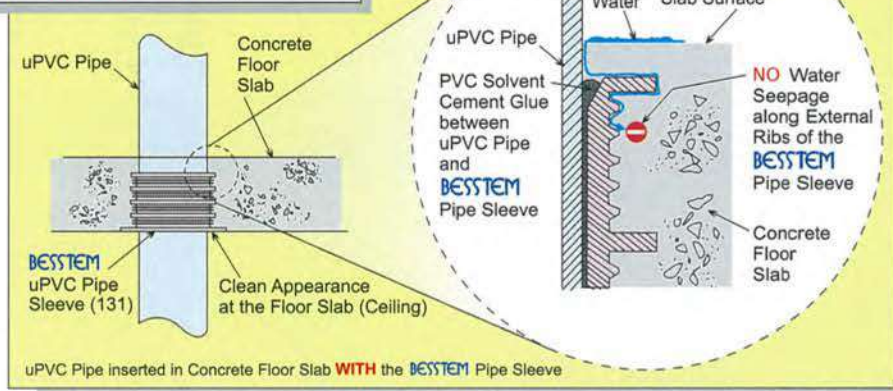

Fig. 11
- Prevents water seepage through the uPVC pipes from wet area like : Bathroom ; Balconies ; RC Flat Roofs ; RC Gutter ; Multi Storey Car Parks etc (see Fig. 11).